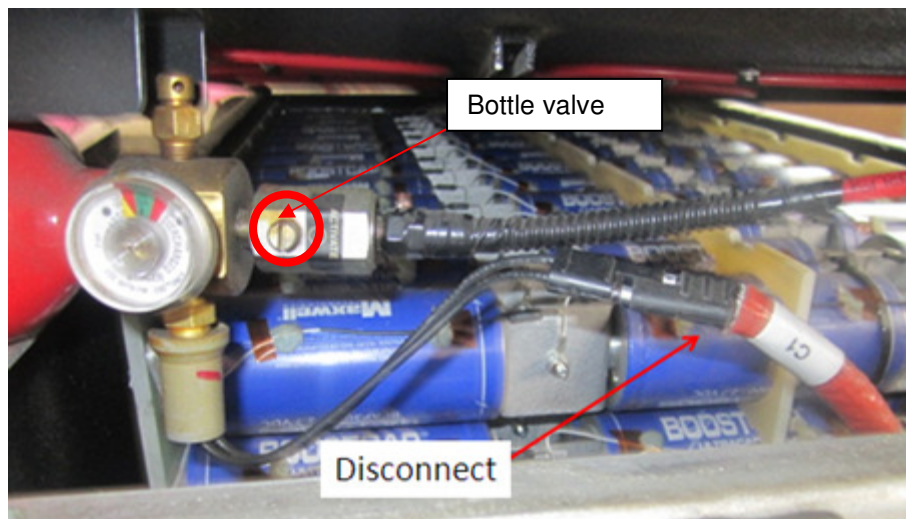

Fig 6 – Fire bottle harness
- f. Deactivate (refer to orientation sticker on bottle) the bottle valve using a flat head screw driver and disconnect the fire bottle harness connection before fully opening lid and setting aside. Fig 6